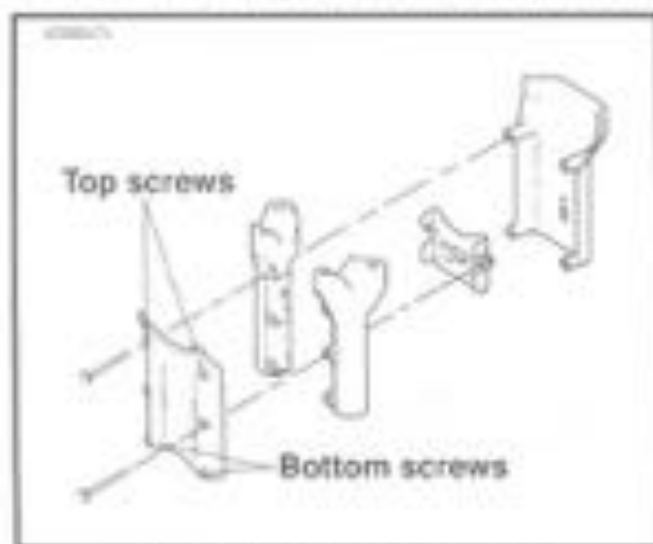

Figure 7-62. XL Custom riser cover
2. See Figure 7-62. On XL Custom remove top and bottom pair of screws from the rear of the riser cover. See Figure 7-64 and 7-65. Remove front of riser cover to expose electrical bracket. Slide electrical bracket off center screws. Indicator lamp socket is on backside of bracket.